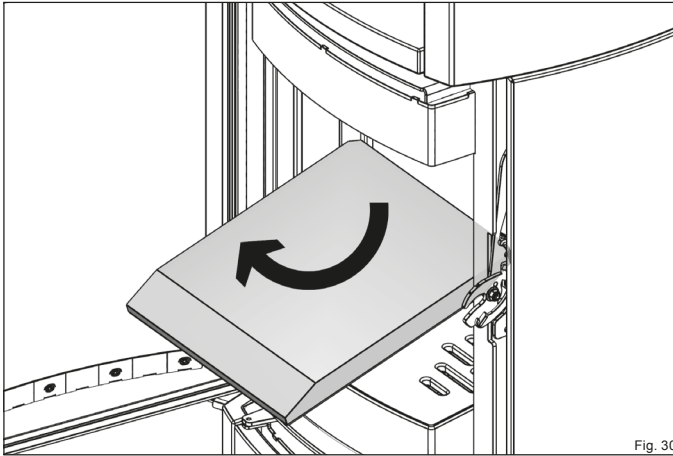

Fig. 30
- ▶ Carefully remove the top firebrick from the firebox (Fig. 30).